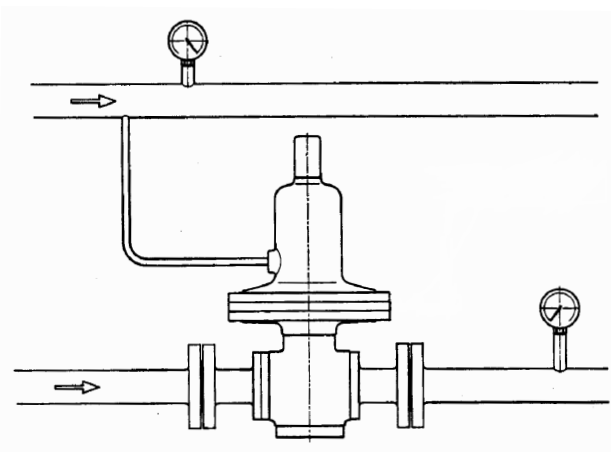

Fig. 12 Example of installation layout – Group 1 regulators: 172-50 Single Diaphragm
**Group 1 Regulators: 172-50 Single Diaphragm (Fig. 12)**